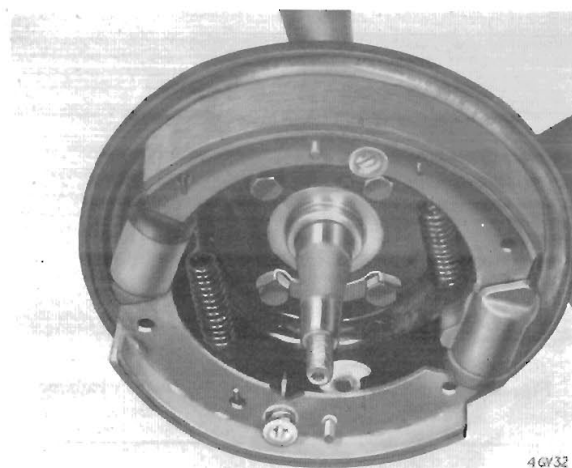

Fig. 22. Locking tabs securing backing plate and steering arm bolts
Secure the components with bolts (51), spring washers (49), nyloc nut (25) and a new tab-washer (48). Tighten the bolts and nyloc nut to the torques quoted on page 23. Secure the tabs against the two lower bolt heads as shown on Fig. 22.